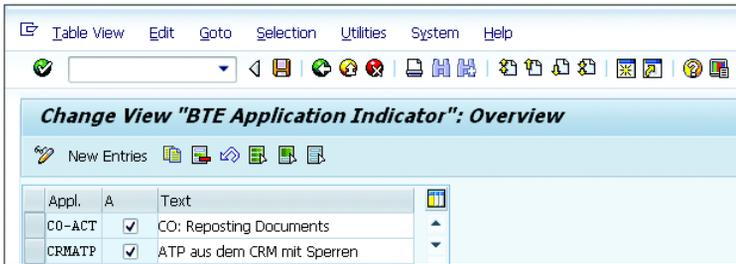

Figure 6.47 Business Transaction Event Application Indicator
2. In SAP ERP, the material must not be relevant for the availability check with SAP APO. Figure 6.47 shows activating the BTE for CRMATP.